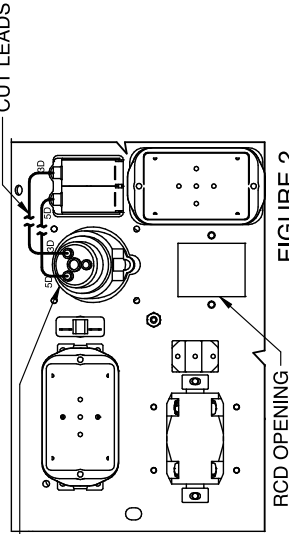

FIGURE 2
4. LOCATE LEADS 3D & 5D. (SEE FIGURE 2). CUT BOTH LEADS AS SHOWN.